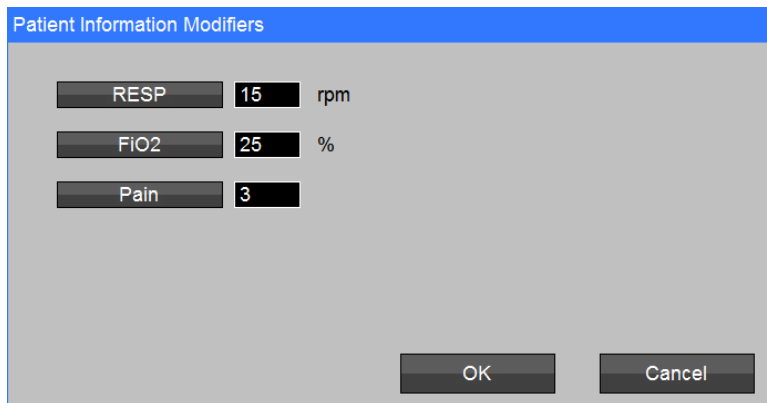

Figure 44: Patient Information Modifiers Screen
- a) RESP (Respiration Rate) - Press the RESP line to alter the RESP value. The valid range for RESP 1 to 150 rpm (refer to Figure 44).
- b) FiCO2 - Press the FiCO2 line to alter the FiCO2 value. The valid FiCO2 range is 21 to 100 % (refer to Figure 44).
- c) Pain - Press the Pain Line to alter the Pain value. The valid Pain range is 0 to 10 (refer to Figure 44).